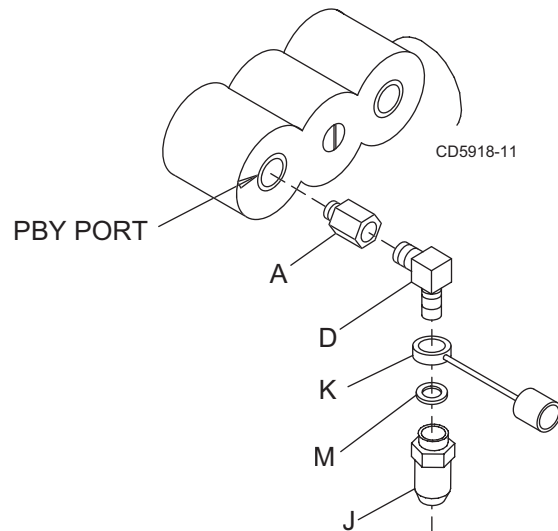

Figure 28 Power Beyond Fitting Installation
4. Install fittings, quick couplers, dust cap, and colored bands to the hydraulic manifold POWER BEYOND (PBY) port as shown in Figure 28.